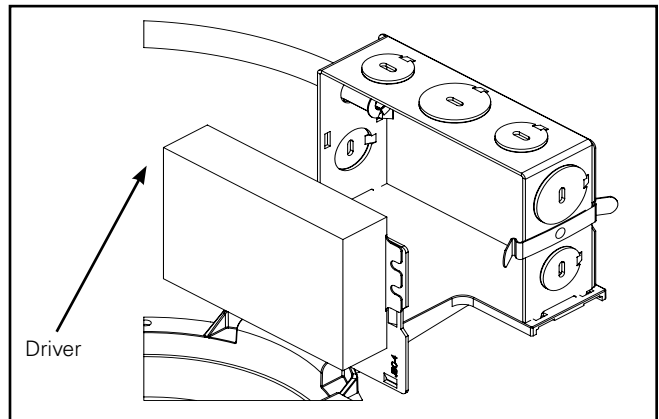

Figure 13
2. Remove the driver and junction box cover assembly. (Figure 13.).